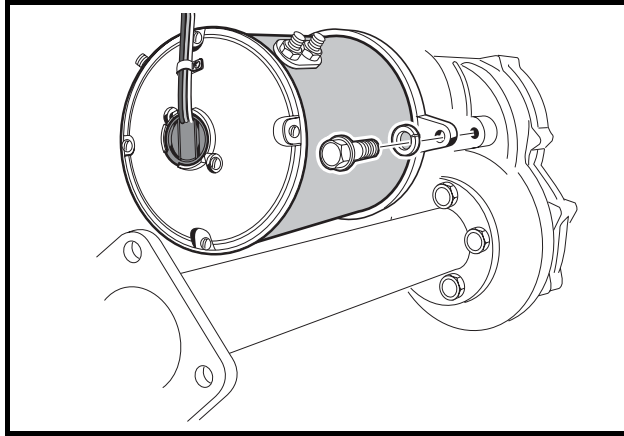

Figure 17a-12 Motor Positioning Bolt
1. To detach axle tubes (14 and 35) from the transaxle housing, remove the bolts and lock washers (8 and 9) (Figure 17a-5, Page 17a-3).
2. Remove 11 bolts (24) that hold housing together.
3. Pull the halves of the housing (11 and 20) apart. If necessary, tap lightly on the spline of the input pinion (17). See following CAUTION.